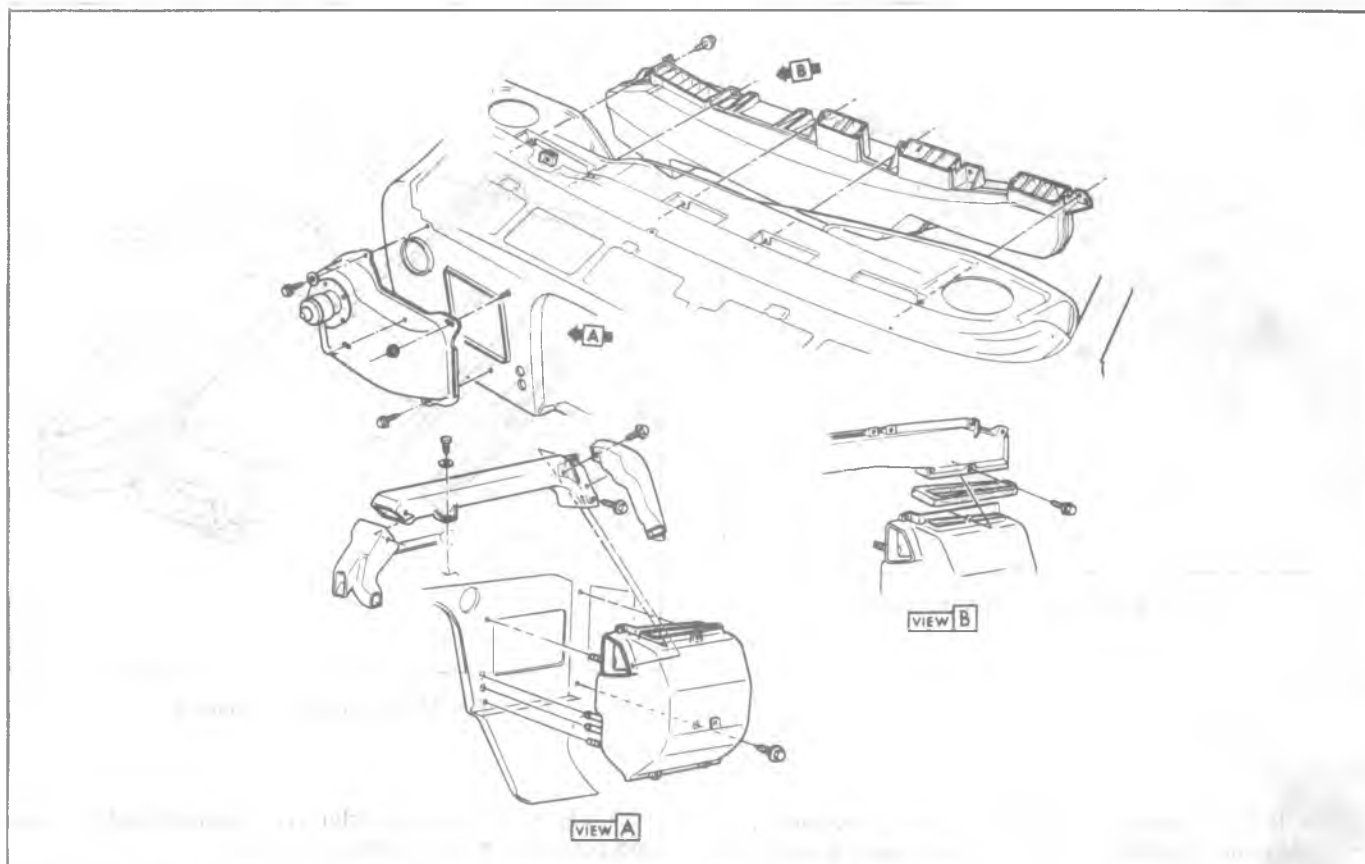

Fig. 1B-52-Heater Distributor Duct-G Model
7. Remove recirculating air door vacuum actuator. See Figure 1B-53.
9. Remove heater distributor duct. (Figure 1B-54.
12. Remove three (3) nuts from bolts attaching heater core case to dash panel and one (1) screw at lower right corner (inside).
14. Remove gasket (Fig. 1B-56) to expose screws attaching case sections together.